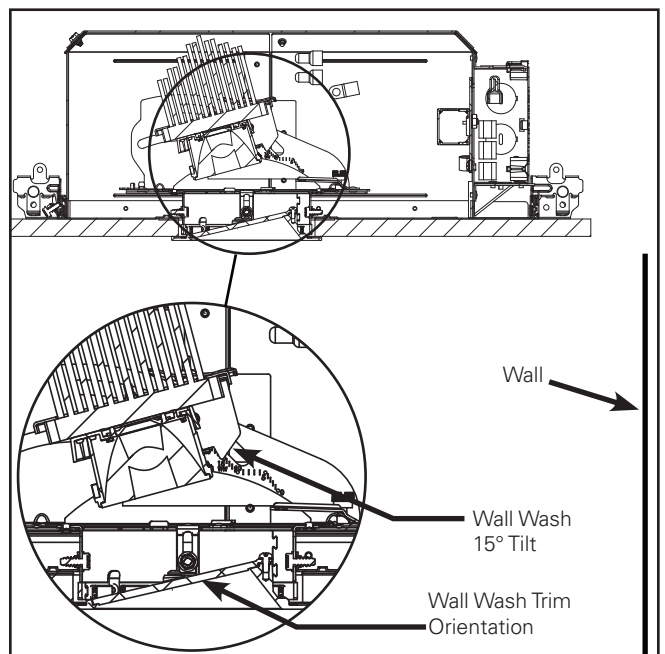

Figure 13
For round and square wall wash trims, the optimal tilt angle is 15° (Figure 13).
7. If using a wall wash trim, the angle of the trim lens should align with the direction and angle of the mechanism head (Figure 13).